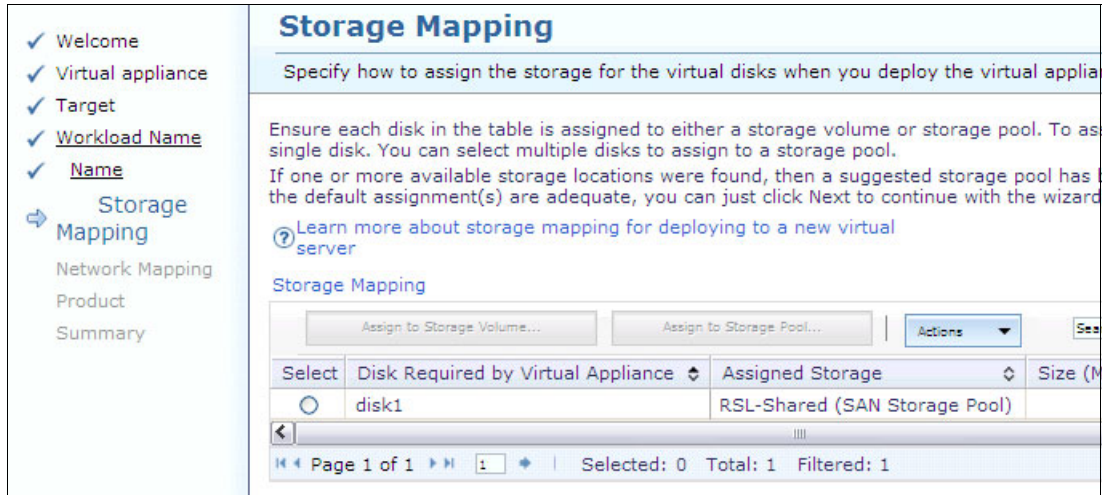

Figure 9-132 Storage Mapping window
- The Storage Mapping GUI is displayed as shown in Figure 9-132. Note that disk1 is not selected now because a disk is created automatically in your storage pool. Click **Next**.